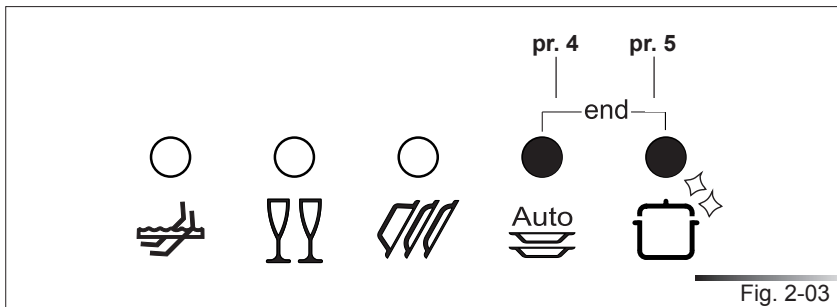

Fig. 2-03
- To cancel the current program, open the door and press and hold down the **program selection** button (ref. 3 fig. 2-02) for a few seconds until the indicator lights of the fourth and fifth programs turn on (ref. pr. 4, pr. 5 fig. 2-03).
- After about 1 minute, the dishwasher terminates the cycle and the indicator lights of the fourth and fifth programs (ref. pr. 4, pr. 5 fig. 2-03) start flashing.